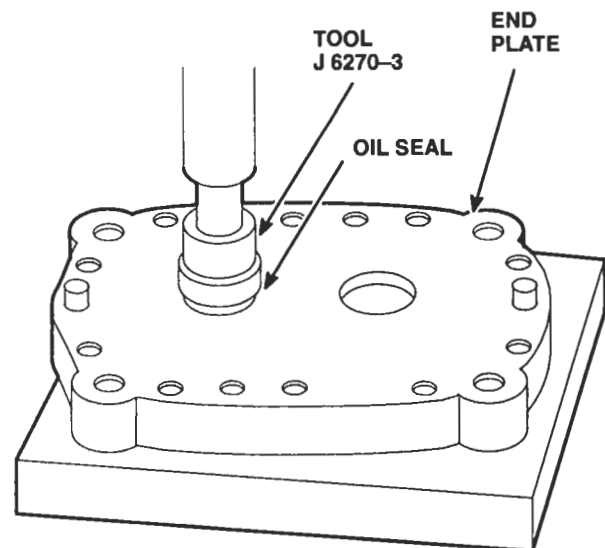

Figure 8. Removing Oil Seal and Bearing from End Plate
- c. Place the long end of the oil seal remover and installer J 6270-3 down through the oil seal and into the bearing, with the opposite end of the remover under the ram of the press (Figure 8.) Then press the bearing and oil seal out of the end plate. Discard the oil seal.